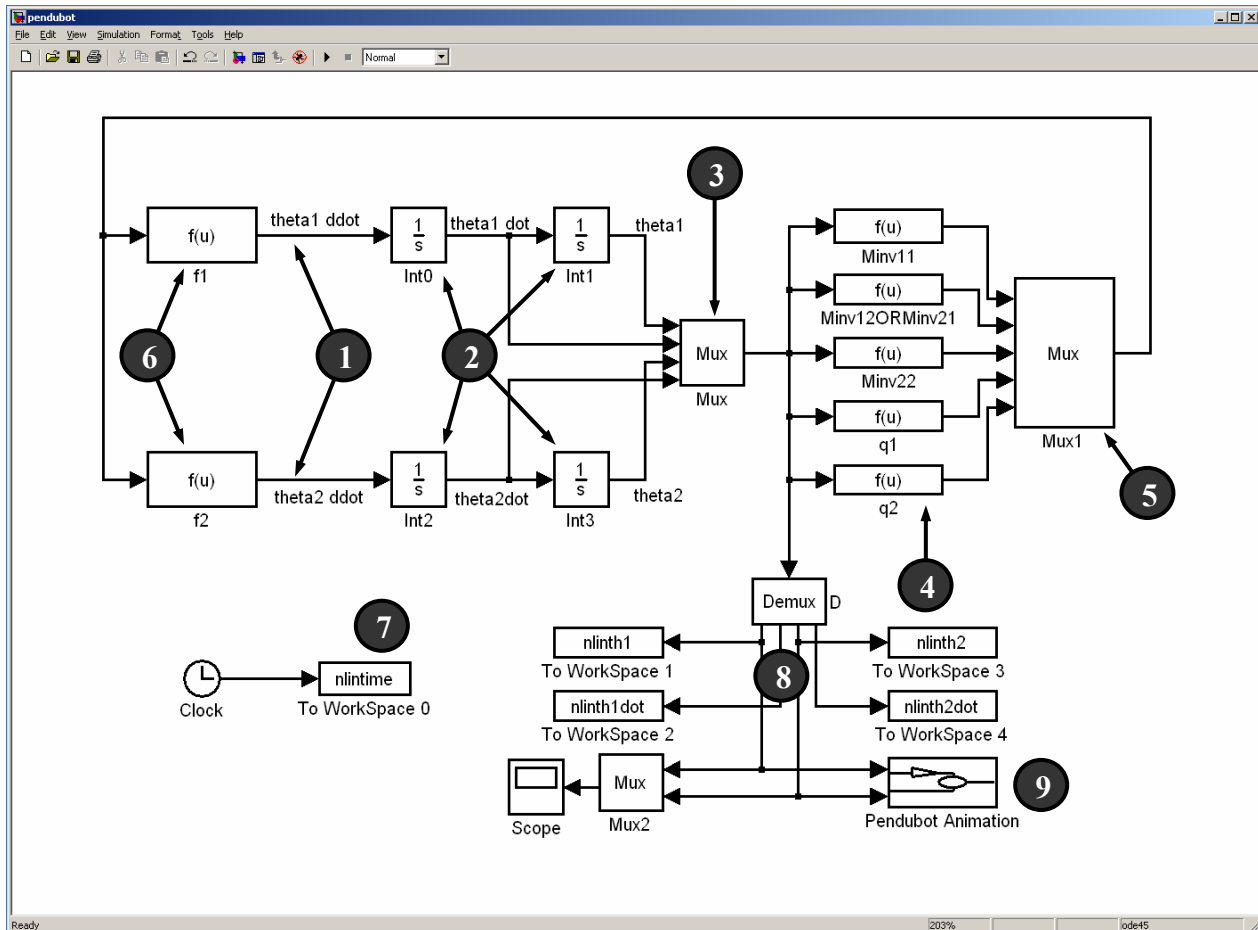

Figure 3: Nonlinear *Simulink* model.
The non-linear *Simulink* model is provided for this lab. The *Simulink* model is shown in Figure 3. This simulation file will still need to be linearized in lab. To do this, you will need to know and understand the structure of the simulation file.
1. Open the non-linear Simulink model. The file is located in $f:\text{labs}\backslash\text{me340}\backslash\text{pendubot}\backslash$ and it is called pendubot.mdl . Start *Simulink* and open this file. The file should resemble Figure 3.